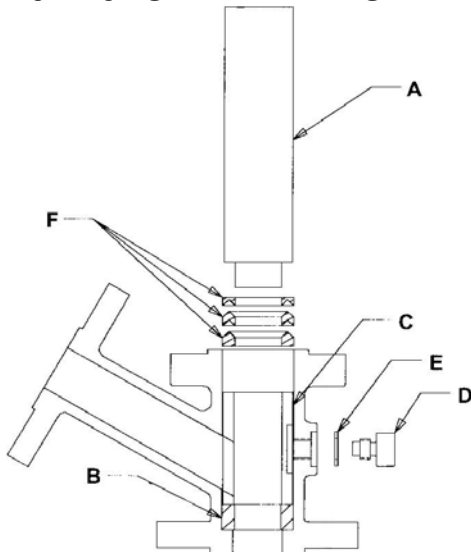

Figure 4 – Installation of chevron TFE gland ring.
1. Using a Strahman ring seater "A" (See Fig. 4) or the valve cage "C", install inlet ring "B". The ring should sit evenly on shoulder.